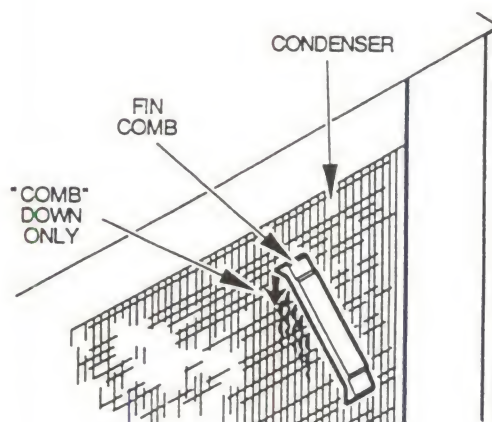

Figure 9. STRAIGHTEN BENT CONDENSER FINS
3. Straighten any bent condenser fins with a fin comb, Figure 9.